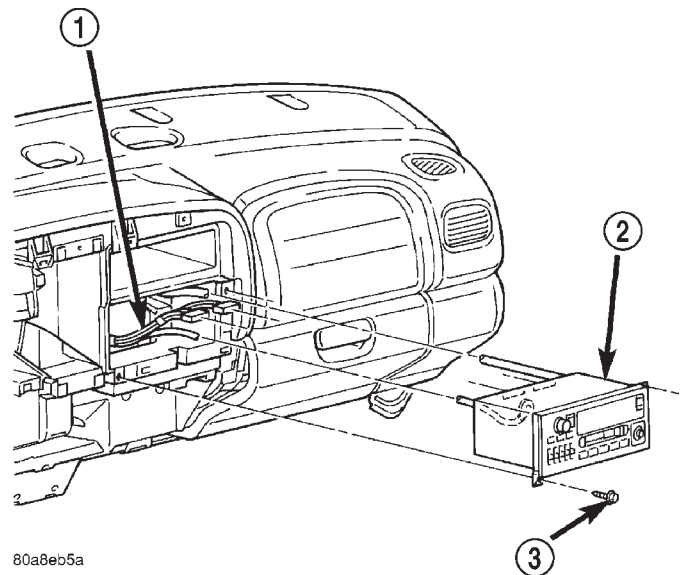

Fig. 4 Radio Receiver Remove/Install
(1) Disconnect and isolate the battery negative cable.
(2) Remove the cluster bezel from the instrument panel. Refer to **Cluster Bezel** in the Removal and Installation section of Group 8E - Instrument Panel Systems for the procedures.
(3) Remove the two screws that secure the radio receiver to the instrument panel (Fig. 4).